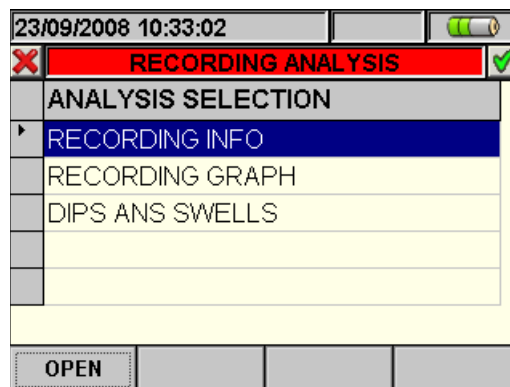

Fig. 116: Recording analysis (Reg-type data)
2. Press the **ESC** key (or the smart icon ) to exit the function and go back to the “Recording analysis” page (Fig. 116).
- The **ESC** key (or smart icon ) to exit the function and go back to the “Recording analysis” page (Fig. 116).